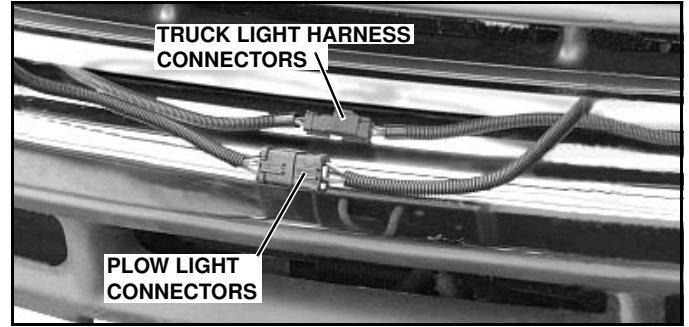

Figure 1-49
4. To make the truck lights operable, plug the male and female EIS® connectors on the truck light harness together. (See Figure 1-49).